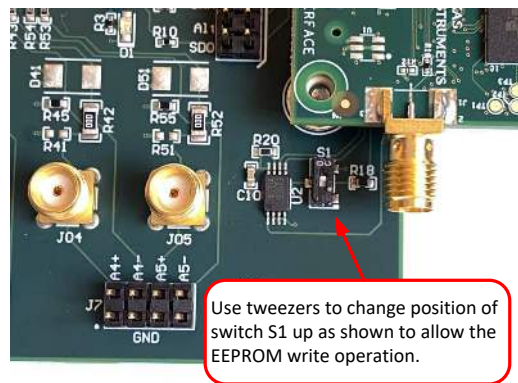

Figure 7-3. Enable EEPROM for Writing
2. Enable the EEPROM for writing. This process is done by changing switch S2 to the top position using tweezers. Figure 7-3 details this process.